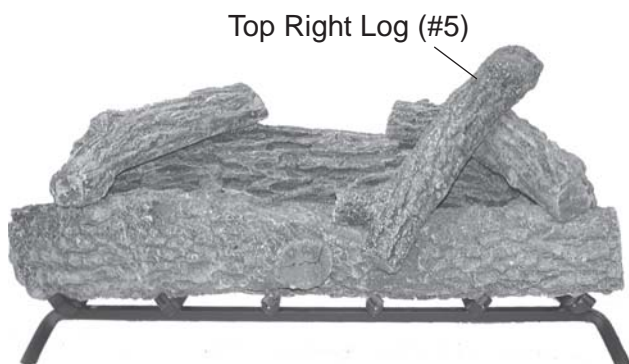

Figure 62 - Positioning Top Right/Left Log (#5)
5. Rest Top Right/Left Log #5 on Log #4 and Log #1. *See Figure 62.*